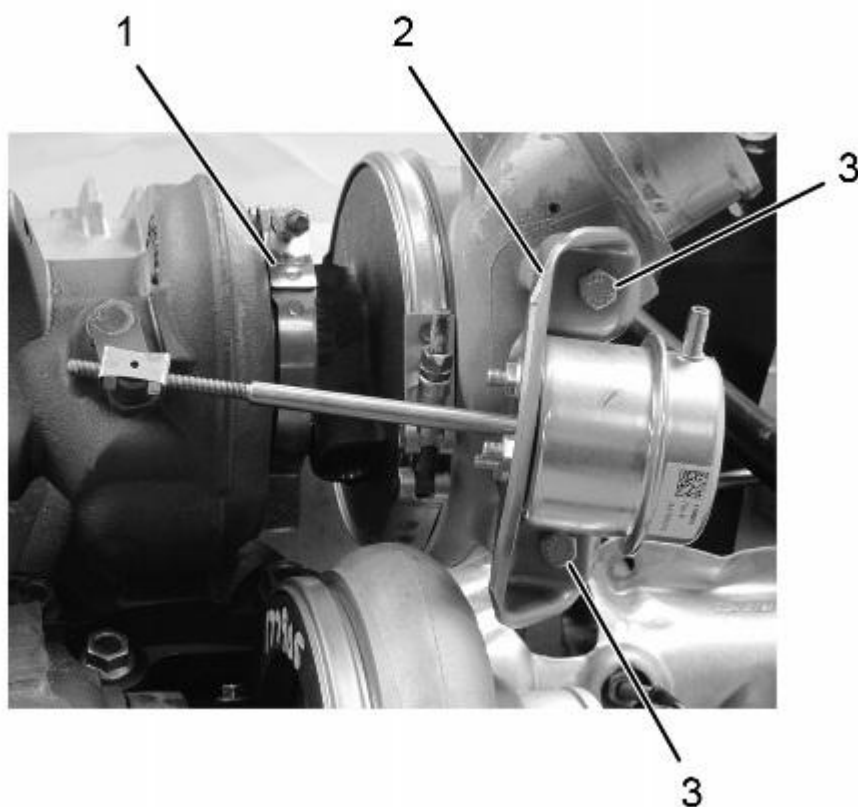

**Figure 8. Wastegate Actuator.**
- 3. M8 x 16 bolt (2)
**21. Remove two bolts (Figure 8, Item 3) and position wastegate actuator (Figure 8, Item 2) for access to HP turbocharger.**
**22. Remove turbine V-band clamp (Figure 8, Item 1) from HP turbocharger.**